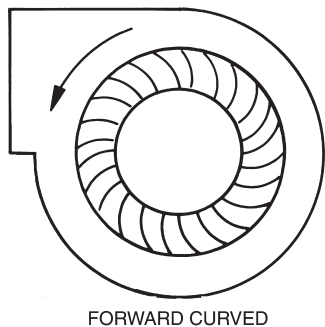

Fig. 45 — Fan Wheel Rotation
7. Check direction of rotation (see Fig. 45). Arrow on drive side of fan housing indicates correct direction of rotation.
install the coil with the downstream bottom of the coil attached to the upright mounting flange as shown in Fig. 45. Adjust the coil and then attach the top coil baffle to the top flange provided.